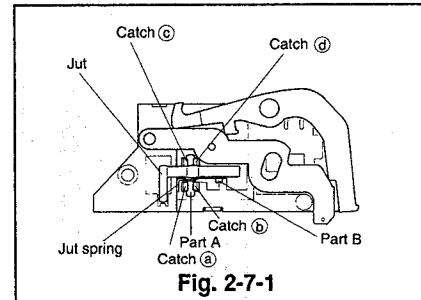

Fig. 2-7-1
- ① Follow the removal method in Items ① to ⑥ of Para. 2-6.
- ② Unfasten the four catches (Ⓐ, Ⓑ, Ⓒ and Ⓓ) shown in Fig. 2-7-1 to remove the jut and the jut spring.
- ① Install the jut and the jut spring as shown in Fig. 2-7-1. (Insert the jut spring into the part A of the jut before installing the jut. Hook one end of the jut spring with the outside of the catch (Ⓐ) and the other end with part B of the jut.)
- ② Install the bottom plate according to the installation method in ③ of Para. 2-6.
- ③ Follow the installation method in Items ⑤ to ⑧ in Para. 2-2.